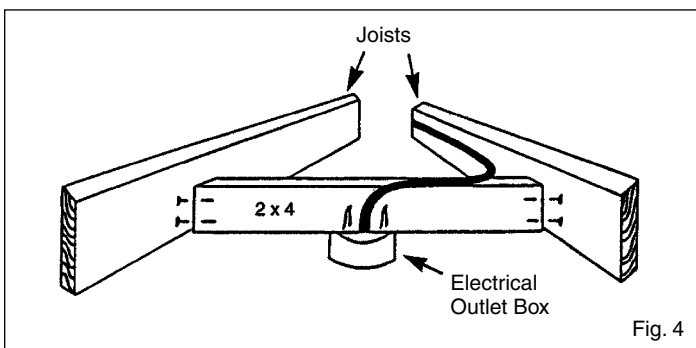

Fig. 4
- B.** If the mounting site is not centered under an existing ceiling joist (See Figure 4) it will be necessary to reinforce the mounting site with a cross member. (See Figure 4.) The cross member must be a minimum 2" x 4" size and securely mounted between the ceiling joists with nails or wood screws.
- C.** Drill (2) holes no larger than the minor diameter (1 1/64") of bracket screw, 2" deep, 2 9/16" apart in center of joist. Bracket may be used for hole pattern.